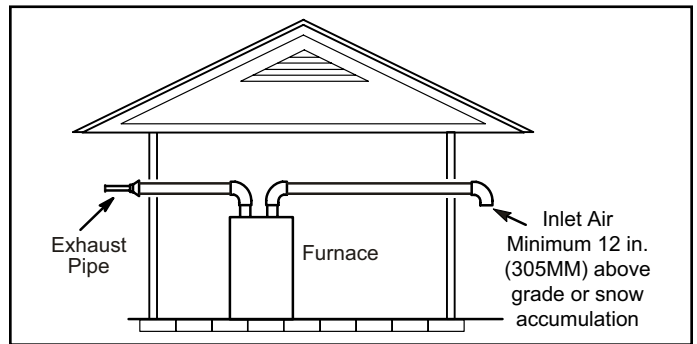
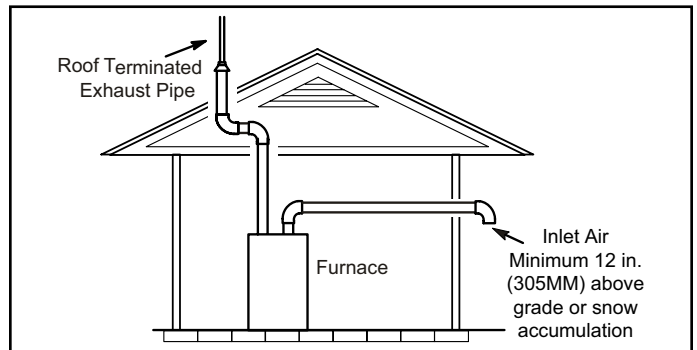

Figure 32. Exiting Exhaust and Intake Vent (no common pressure zone)
Figure 33. Exiting Exhaust and Intake Vent (no common pressure zone)
1. Intake and exhaust terminations are not required to be in the same pressure zone. You may exit the intake on one side of the structure and the exhaust on another side (Figure 32). You may exit the exhaust out the roof and the intake out the side of the structure (Figure 33).